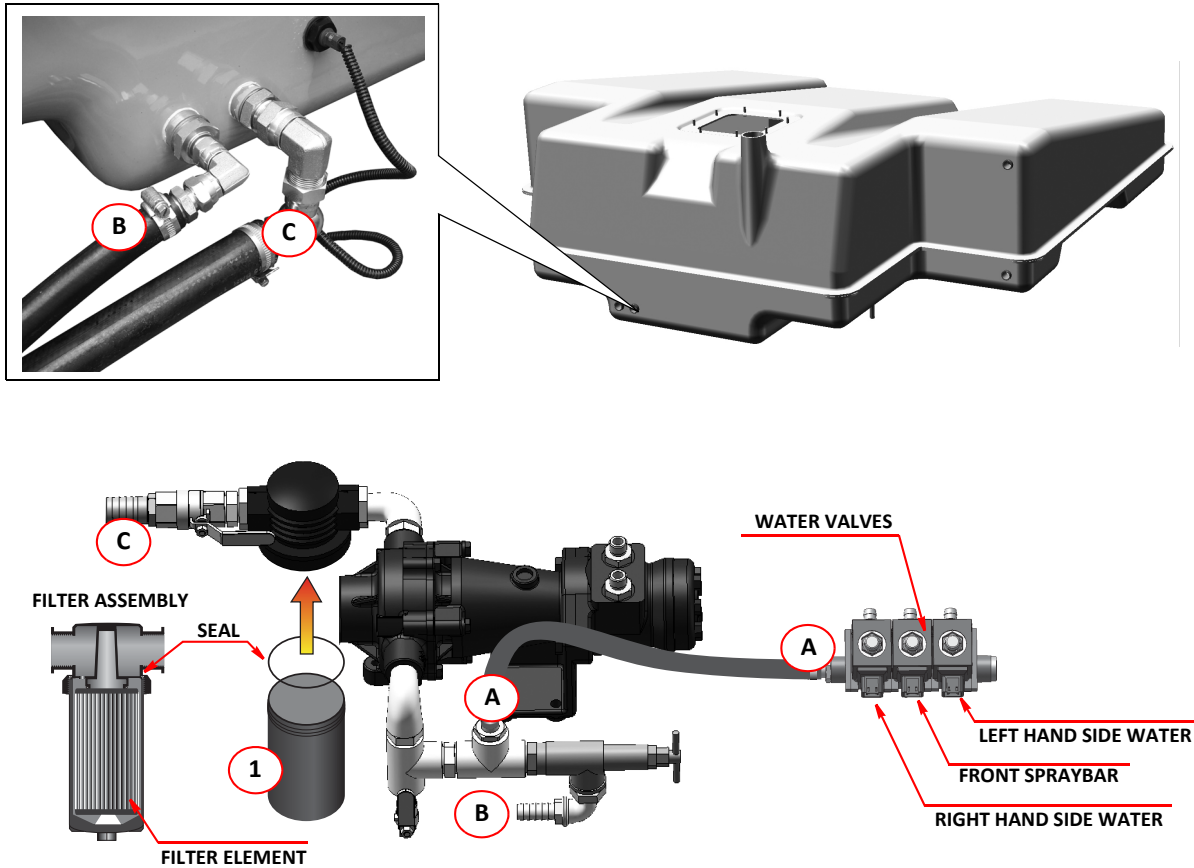

Figure 25 - Low pressure pump water hose connection (Hydraulically driven pump)
1. Screw the filter assembly together (1), ensure the filter element is in the correct orientation and the seal is correctly fitted. Refer to Figure 25.